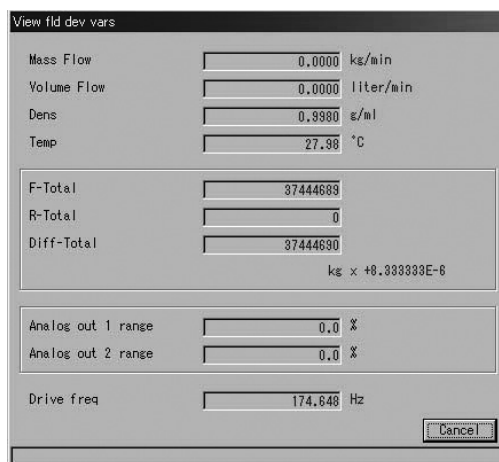

Fig.17
- ② A message box for measuring process variables appears as shown in Fig. 17.